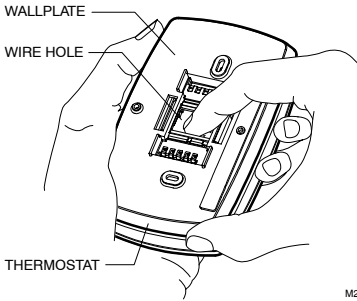

Figure 2 - Separate Wallplate from Thermostat
- 1- Separate the wallplate from the thermostat (see figure 2).